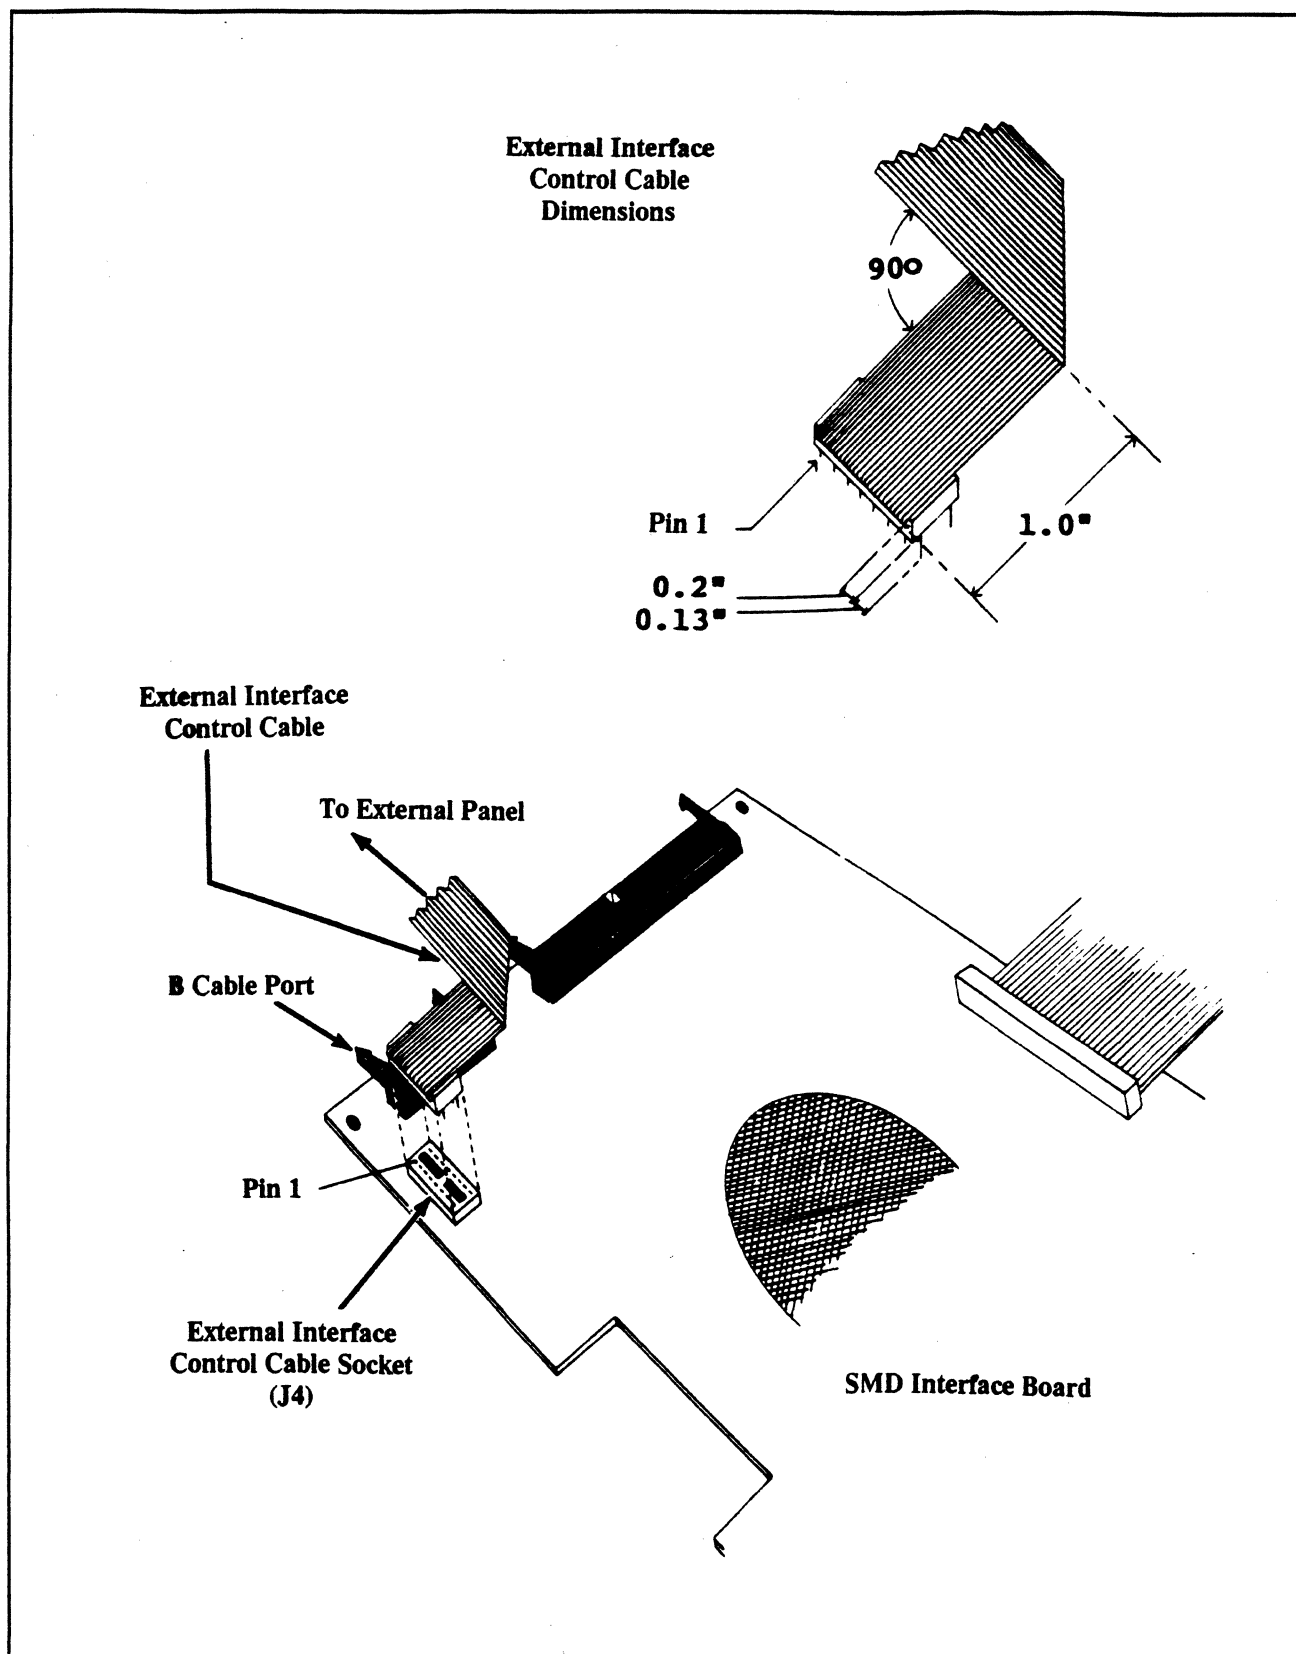

Figure 18
- (b) Use a flat, low-profile, 16-pin DIP plug (3M part number 3406-0000 or equivalent) and a 16 conductor flat ribbon cable to connect to the socket. Route the cable as shown in **Figure 18**.